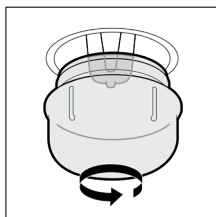

Fig. 6
2. For the sake of efficient air circulation the unit has to be located according to the dimensions on Fig. 6 and the design of the cabinet must enable air flow into its bottom part. The gap behind the rear wall of the built-in appliance must be at least 50 mm.
2. Unscrew the glass cover in the anti-clockwise direction according to Fig. 6 and replace the bulb with a bulb of the same type and parameters.